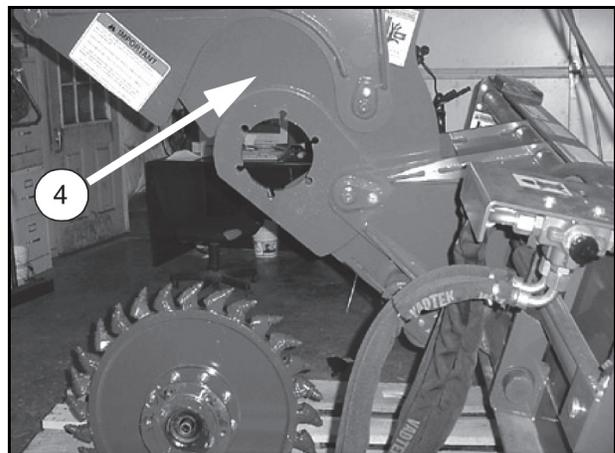

Figure 13.
5. With cutting wheel anchored, use a hoist to lift the saw chassis (4) from the wheel as shown in Figure 13.